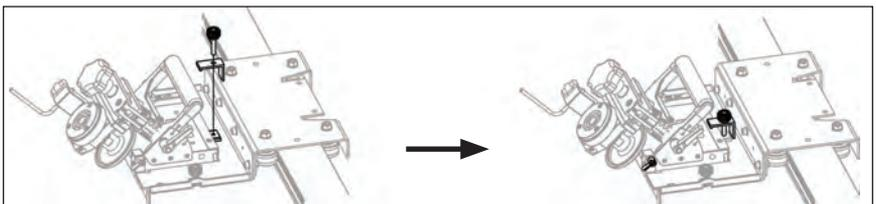

Figure 5
5. Tighten the BAB1590 using the clamping plate & knob bolt. (See Figure 5)